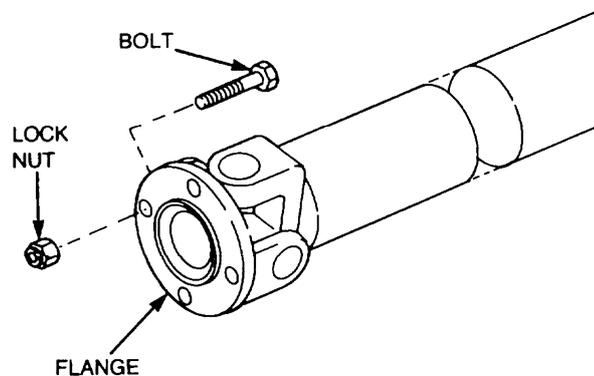

Figure 83 Rear Axle Propeller Shaft Removal
- a. Remove and discard the four locknuts securing the propeller shaft to the transmission output flange (Figure 83).
- a. Remove the four bolts and locknuts securing the front section of the rear axle propeller shaft to the transmission (Figure 83). Discard the locknuts.